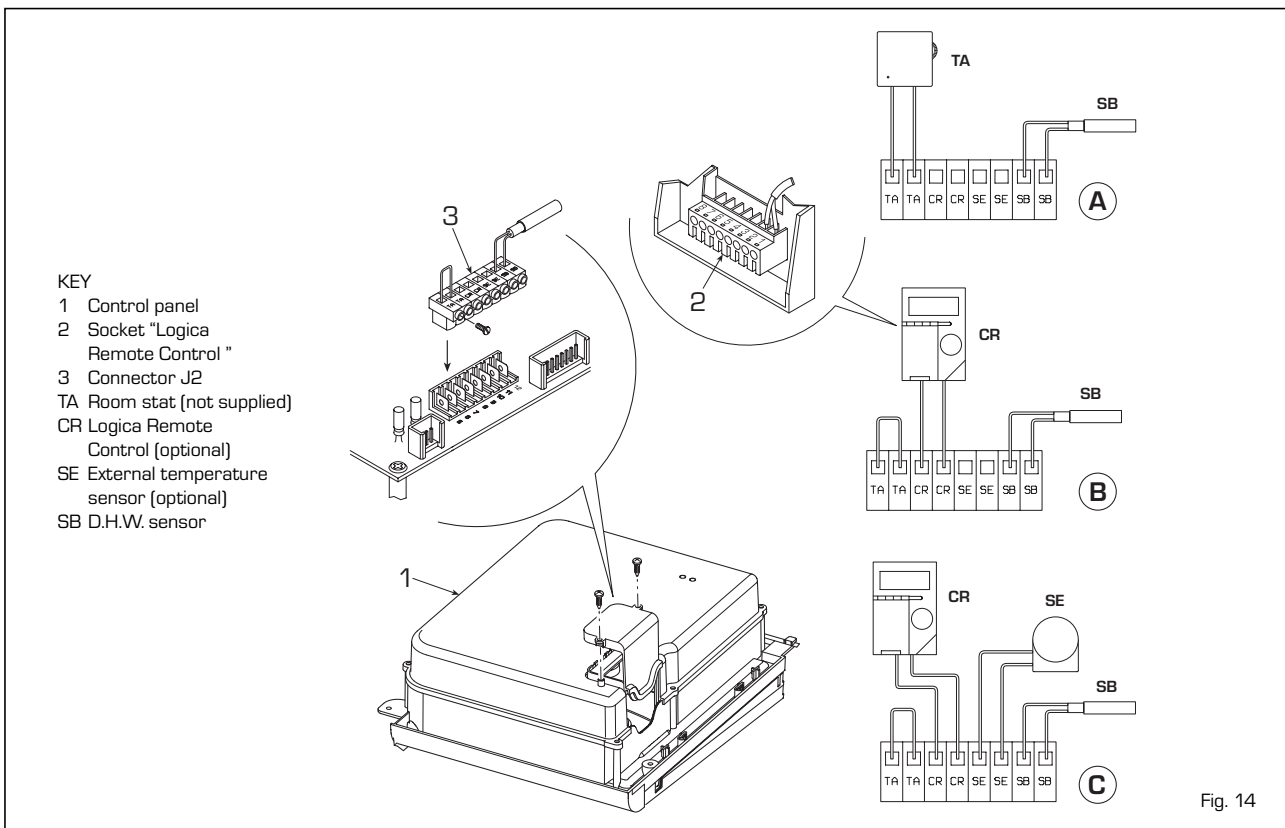

Fig. 14
To gain access to the TA-CR-SE-SB (J2) electronic board connector, remove the control panel cover and connect the room stat to the terminals 5-6 after having removed the jumper (fig. 14). The thermostat or timer-thermostat, recommended for better room temperature control, must be class II as specified by standard EN 60730.1 (clean contact).
3.7.2 Connection "Logica Remote Control" (fig. 14 pos. B)
3.7.3 Connection external temperature sensor (fig. 14 pos. C)